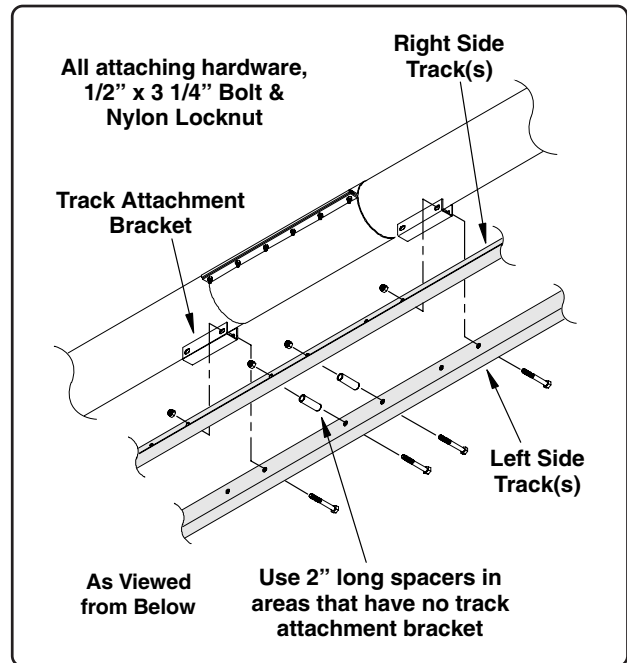

Fig. 22
When installing the track sections you will note that some of the track mounting holes will not have any mounting brackets on the housing in which to attach to. These areas will generally be located under the connecting bands, use the 2" long spacers in these locations (the spacers will be positioned between the tracks as shown in Fig. 22).
2. Align the track mounting holes with the mounting brackets welded to the bottom side of the auger tubing. Secure the tracks to the mounting brackets using 1/2" x 3 1/4" bolts and nylon locknuts (use the 2" spacers in the locations that have no mounting brackets as shown in Fig. 22, these locations are generally beneath the connecting bands).